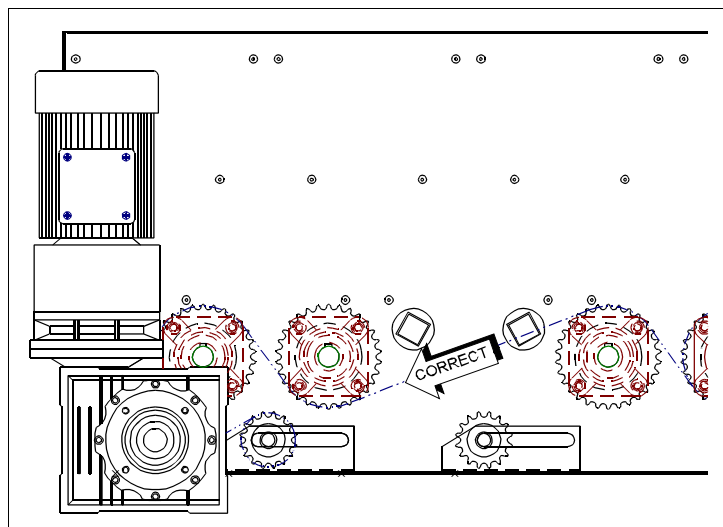

Figure 2 - Drive Chain Direction of Rotation
- ii. The rollers must be checked for correct direction of rotation. This is most important as serious damage could result if the rollers are allowed to rotate in the wrong direction. (See Figure 2 - Page 8)